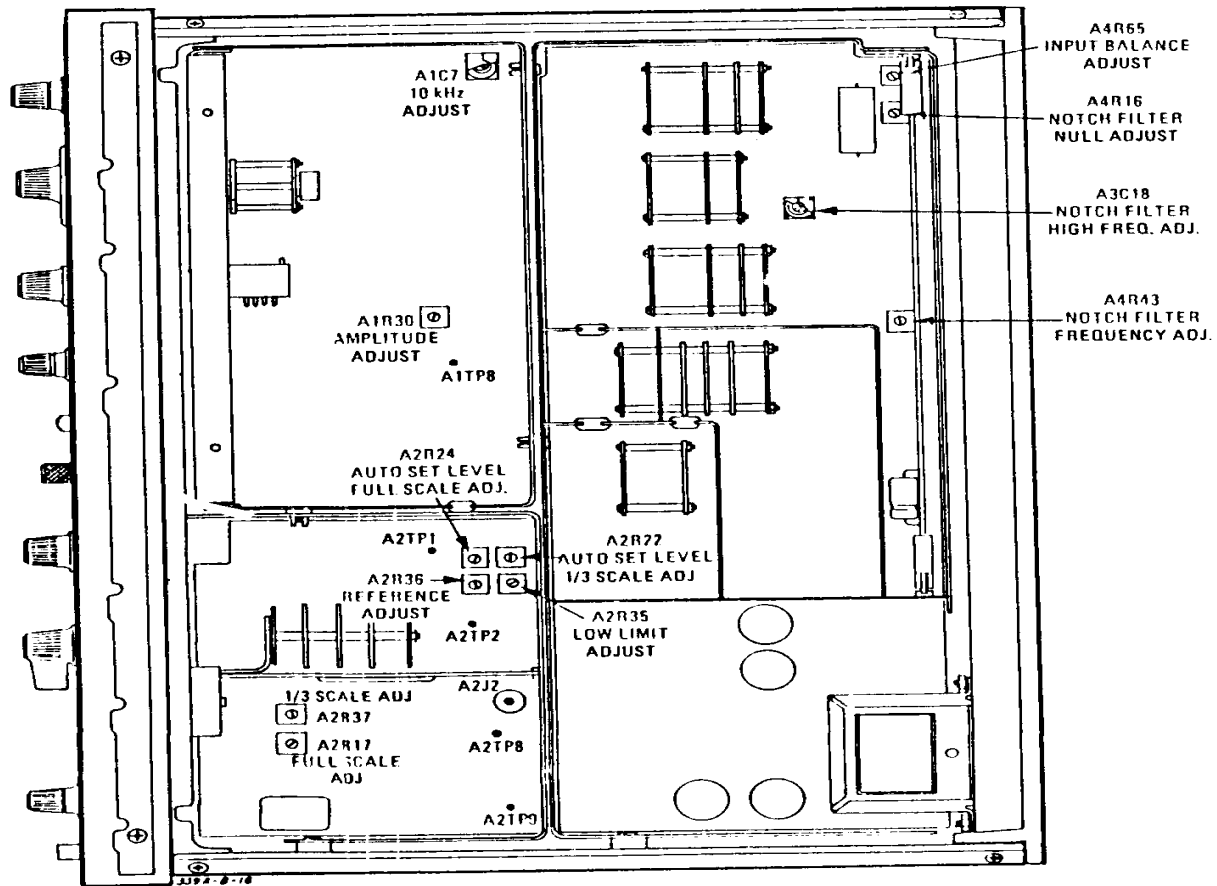

Figure 1. Test instrument - bottom view.
- (1) Set **INPUT RANGE** switch to **3 V**.
- (2) Adjust calibrator output to 3 V and 1 kHz.
- (3) Adjust **A2R17 FULL SCALE ADJ** (fig. 1) for TI meter indication of 3 V (R).
- (4) Adjust calibrator output for 1 V.
- (5) Adjust **A2R37 1/3 SCALE ADJ** (fig. 1) for a TI meter indication of 1 V on 3 V range (R).
- (6) Repeat (2) through (5) above for best in-tolerance condition.
- (7) Connect multimeter to A2TP2 (fig. 1) and chassis ground.
- (8) Adjust calibrator output to 3.162 V and 1 kHz.
- (9) Adjust **A2R36 REFERENCE ADJUST** (fig. 1) for a multimeter reading of 3.162 V dc (R).
- (10) Reduce calibrator output to 0.94 V ac.
- (11) Adjust **A2R35 LOW LIMIT ADJUST** (fig. 1) until **INPUT RANGE** low limit indicator (front panel) just lights (R).
- (12) Increase calibrator output to 0.95 V ac. Low limit indicator should turn off. If not, repeat (7) through (11) above.
- (13) Set **LINE** switch to **OFF**.
- (14) Disconnect cable connector from A2J2 (fig. 1). Place cable in a place that will not short cable to chassis.
- (15) Connect a jumper wire, using test lead between A2TP1 and A2TP8 (fig. 1).
- (16) Connect multimeter between A2TP9 (+) (fig. 1) and chassis ground.
- (17) Adjust output of calibrator to 3.0 V and 1 kHz.
- (18) Set **LINE** switch to **ON**.
- (19) Adjust **A2R24 AUTO SET LEVEL FULL SCALE ADJ.** (fig. 1) for an indication of 3.162 V dc on multimeter (R).
- (20) Reduce calibrator output to 1.0 V ac.
- (21) Adjust **A2R22 AUTO SET LEVEL 1/3 SCALE ADJ** (fig. 1) for a multimeter indication of 3.1612 V dc (R).
(22) Set **LINE** switch to **OFF**.
(23) Reconnect TI cable connector to A2J2 (fig. 1) and disconnect jumper cable from A2TP1 and A2TP8 (fig. 1).
(24) Set **LINE** switch to **ON**.
- (1) Connect multimeter between test points A1TP8 (fig. 1) and shield of assembly A1 (fig. 1), using leads.
- (2) Position controls as listed in (a) through (c) below:
- (3) Adjust **A1R30 AMPLITUDE ADJUST** (fig. 1) for multimeter indication between -0.3 and -0.5 V dc (R).
- (4) Change **FREQUENCY** multiplier control to each range and verify that voltage level at A1TP8 remains negative.
(5) Repeat **a**(1) through (5).
b. Adjustments. Adjust **A1C7 10 kHz ADJUST** (fig. 1) for best in-tolerance indications between 1.0 x 10K and 10.0 x 10K settings (R).